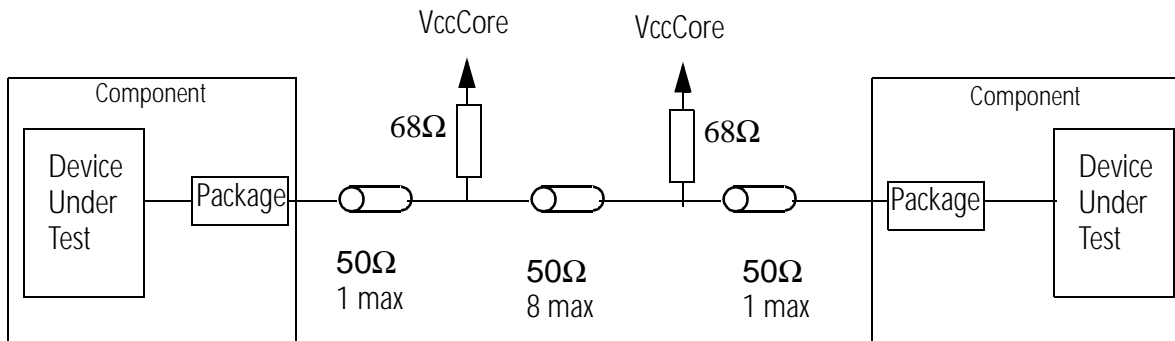

Figure 34. Test Circuit
Table 37 shows the AMD Athlon system bus timings. Figure 34 on page 194 shows the test circuit used to achieve the values in the table.
* See Figure 34 on page 194 for more information about the test circuit.